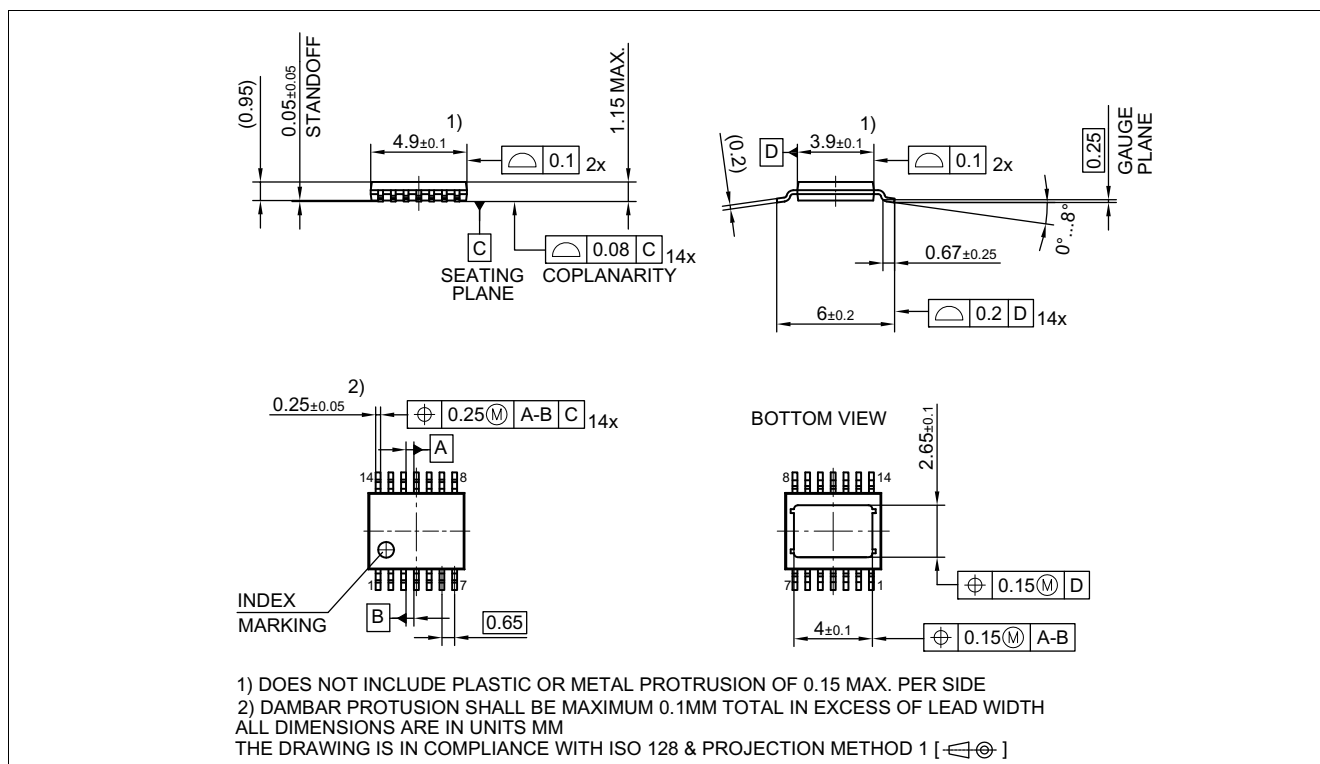
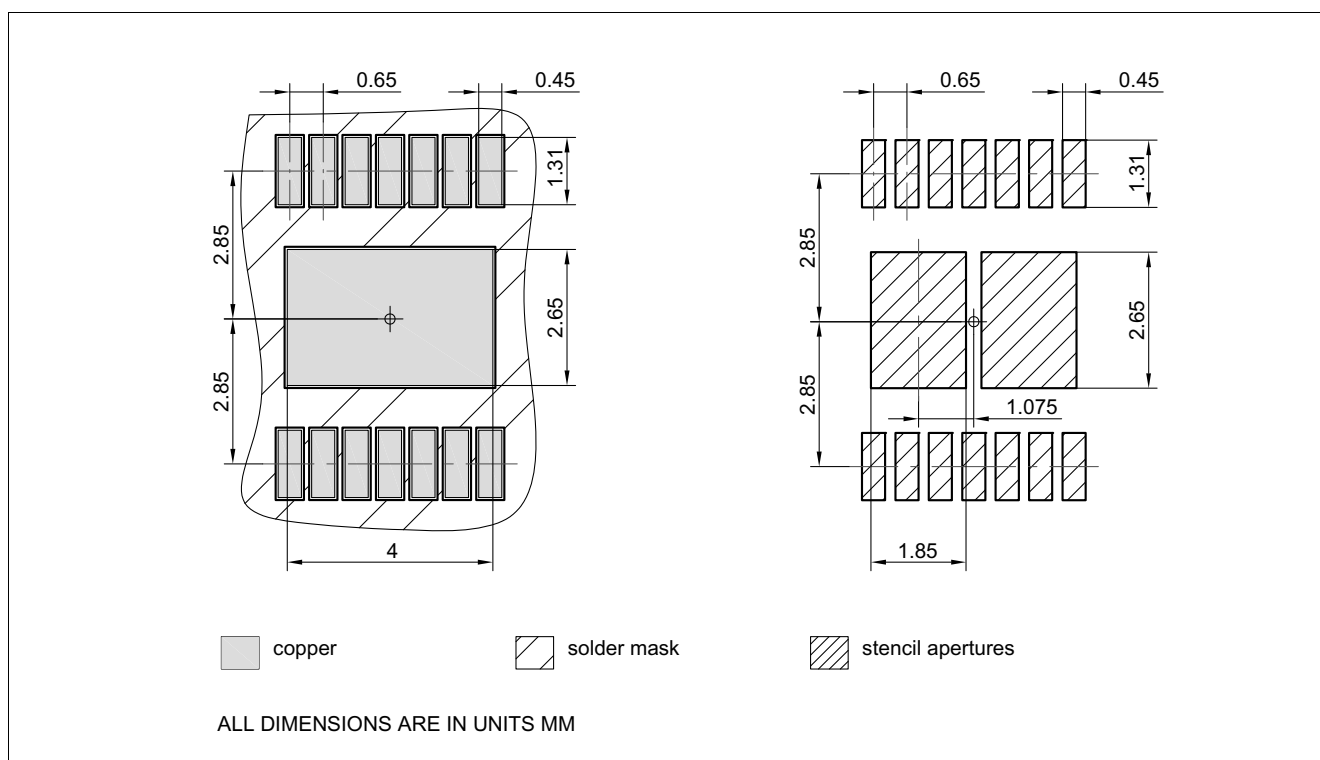

Figure 38 PG-TSDSO-14 (Thin (Slim) Dual Small Outline 14 pins) Package Outline
Figure 39 PG-TSDSO-14 (Thin (Slim) Dual Small Outline 14 pins) Package pads and stencil
1.02 , 2019-02-05	Figure 9, Figure 10 updated Page 1: updated (figure product) Table 22 updated (punctuation) Chapter 9.3, Chapter 9.3.1 updated (typo) Page 1: updated (Package PG-TSDSO-14-22 → Package PG-TSDSO-14) Figure 38 updated (PG-TSDSO-14-22 (Thin (Slim) Dual Small Outline 14 pins) Package Outline → PG-TSDSO-14 (Thin (Slim) Dual Small Outline 14 pins) Package Outline) Figure 39 updated (PG-TSDSO-14-22 (Thin (Slim) Dual Small Outline 14 pins) Package pads and stencil → PG-TSDSO-14 (Thin (Slim) Dual Small Outline 14 pins) Package pads and stencil) Table 1 updated (Parameter: Minimum Overvoltage protection ($T_J = 25\text{ °C}$) → Minimum Overvoltage protection ($T_J \geq 25\text{ °C}$)) Table 1 updated (corrected typo in table Product Summary: $I_{VS(OFF)}$: 1 → 0.9 μA) Table 1 updated (Symbol: $I_{VS(OFF)} \rightarrow I_{VS(OFF)_85}$) P_6.5.20.1 updated (Symbol: $I_{VS(OFF)} \rightarrow I_{VS(OFF)_85}$) P_6.5.20.2 updated (Symbol: $I_{VS(OFF)} \rightarrow I_{VS(OFF)_150}$) P_9.7.10.27, P_9.7.10.29 updated (Note or Test Condition: formatted physical symbols as subscript)